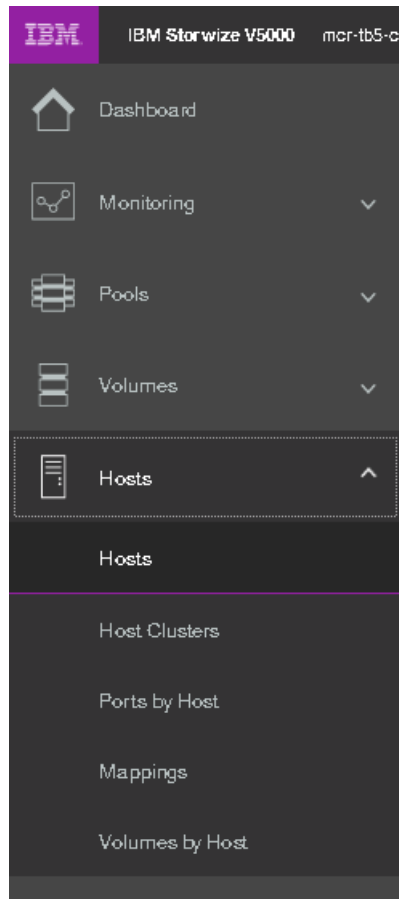

Figure 8-16 Hosts
- From the main navigation panel, select **Hosts** as shown in Figure 8-16 on page 358.
1. From the main navigation panel, select **Hosts** as shown in Figure 8-16 on page 358.